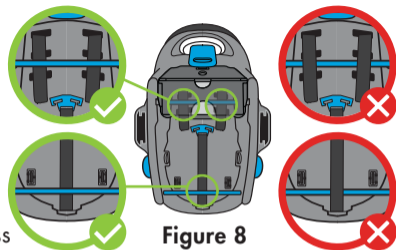

Figure 8
- Route Shoulder Harness Straps and Harness Adjuster Strap between Base Attachment Bars and bottom of Carrier, as shown in **Figure 8**.